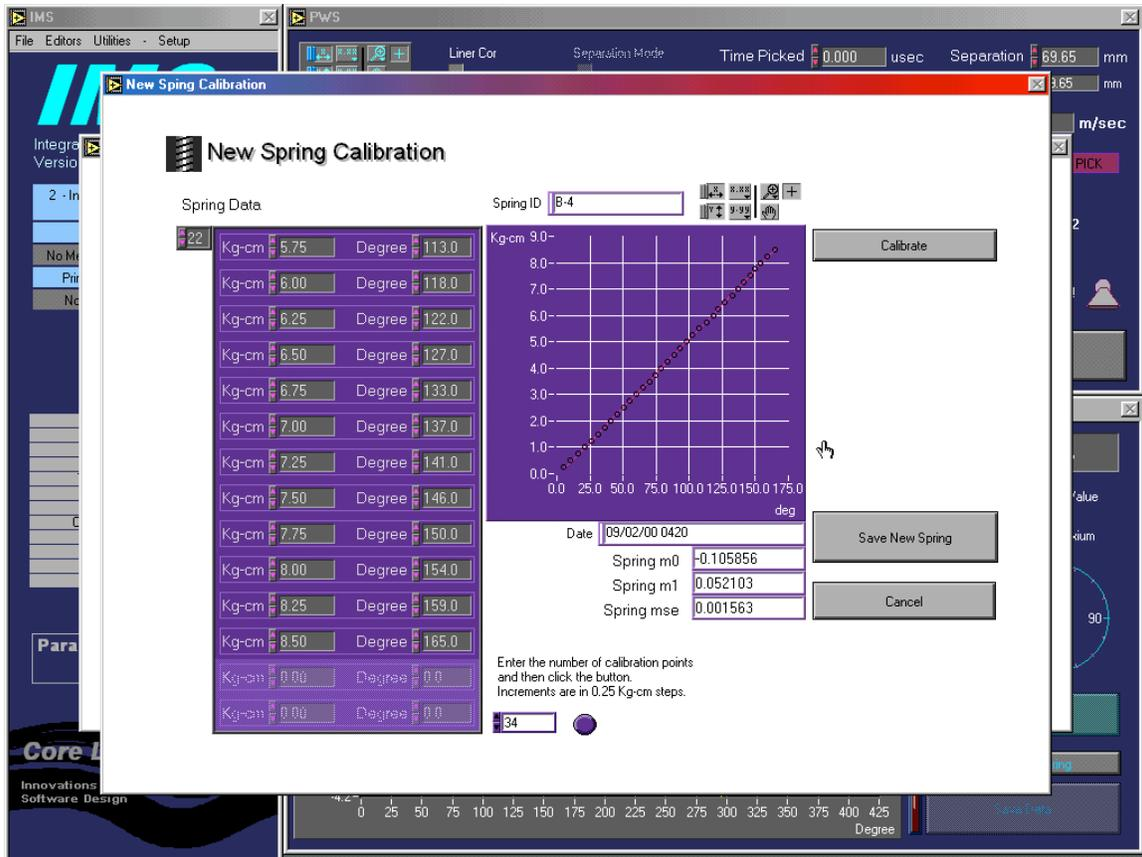

Figure 15. New Spring Calibration.
2. Click ADD NEW SPRING TO LIST; You will be asked to enter the name of a spring (usually the serial number) and this will bring up the New Spring screen (Figure 15).